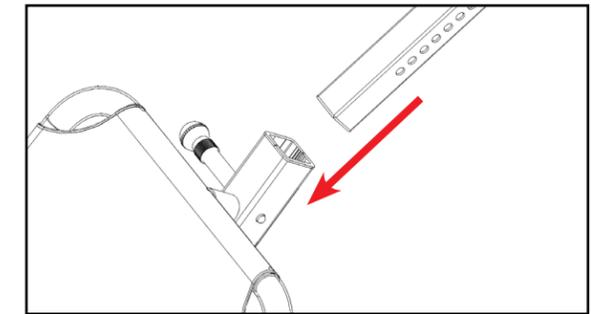

Figure 8
- With the height adjustment settings on the Main Shaft facing up, slide the end of the Main Shaft into the bushing in the Main Shaft housing (Figure 8).